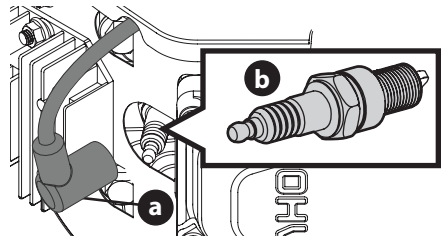

Figure 14
1. Remove the spark plug boot (a) and use a spark plug wrench to remove the plug (b). (Figure 14).